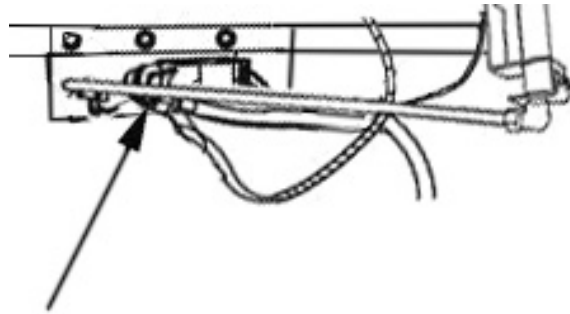

Figure 6
1. Disconnect the gas hose from the gas valve. See Figure.6.